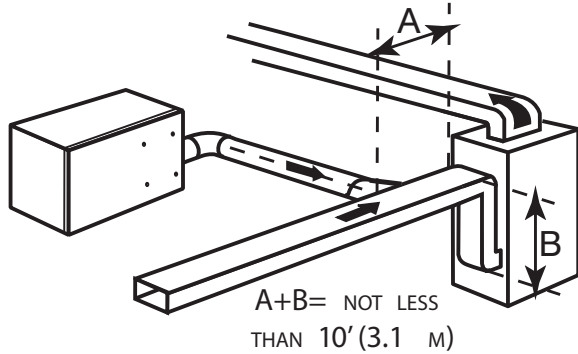

Fig. 11 - Return Side Connection
- Connect this opening to the fresh air distribution port of the HRV/ERV. See Fig. 11.